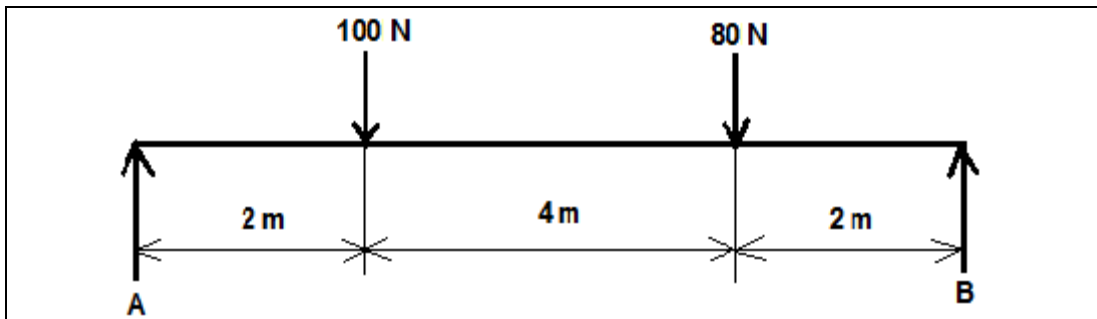

FIGURE 5.2
5.2 FIGURE 5.2 shows a beam with pointed loads.